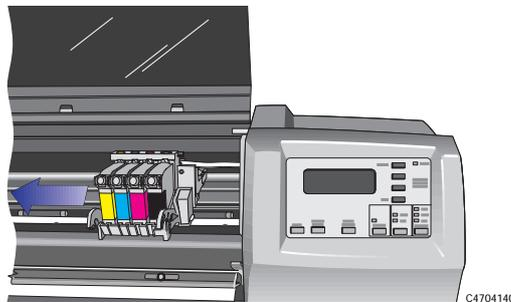

Figure 6
- 1 Remove ALL four printheads from the printer carriage (See Figures 6 and 7).